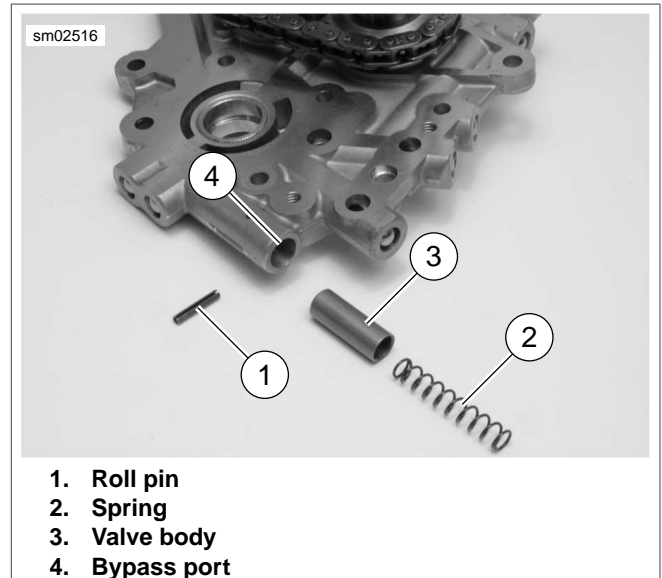

Figure 3-113. Oil Pressure Relief Valve Assembly
3. See Figure 3-113. Using a 1/8 in. punch with a small hammer, carefully tap roll pin (1) from pin hole in cam support plate. Discard roll pin.
4. Remove spring (2) and valve body (3) from bypass port.
2. See Figure 3-113. Lubricate valve body (3) with clean H-D 20W50 engine oil. Slide valve body into bypass port of cam support plate with the open side facing outward.
3. Slide spring (2) into bypass port until seated in open side of valve body.
4. Start **new** roll pin (1) into hole in cam support plate. Compress spring in port using the blade of a small screwdriver.